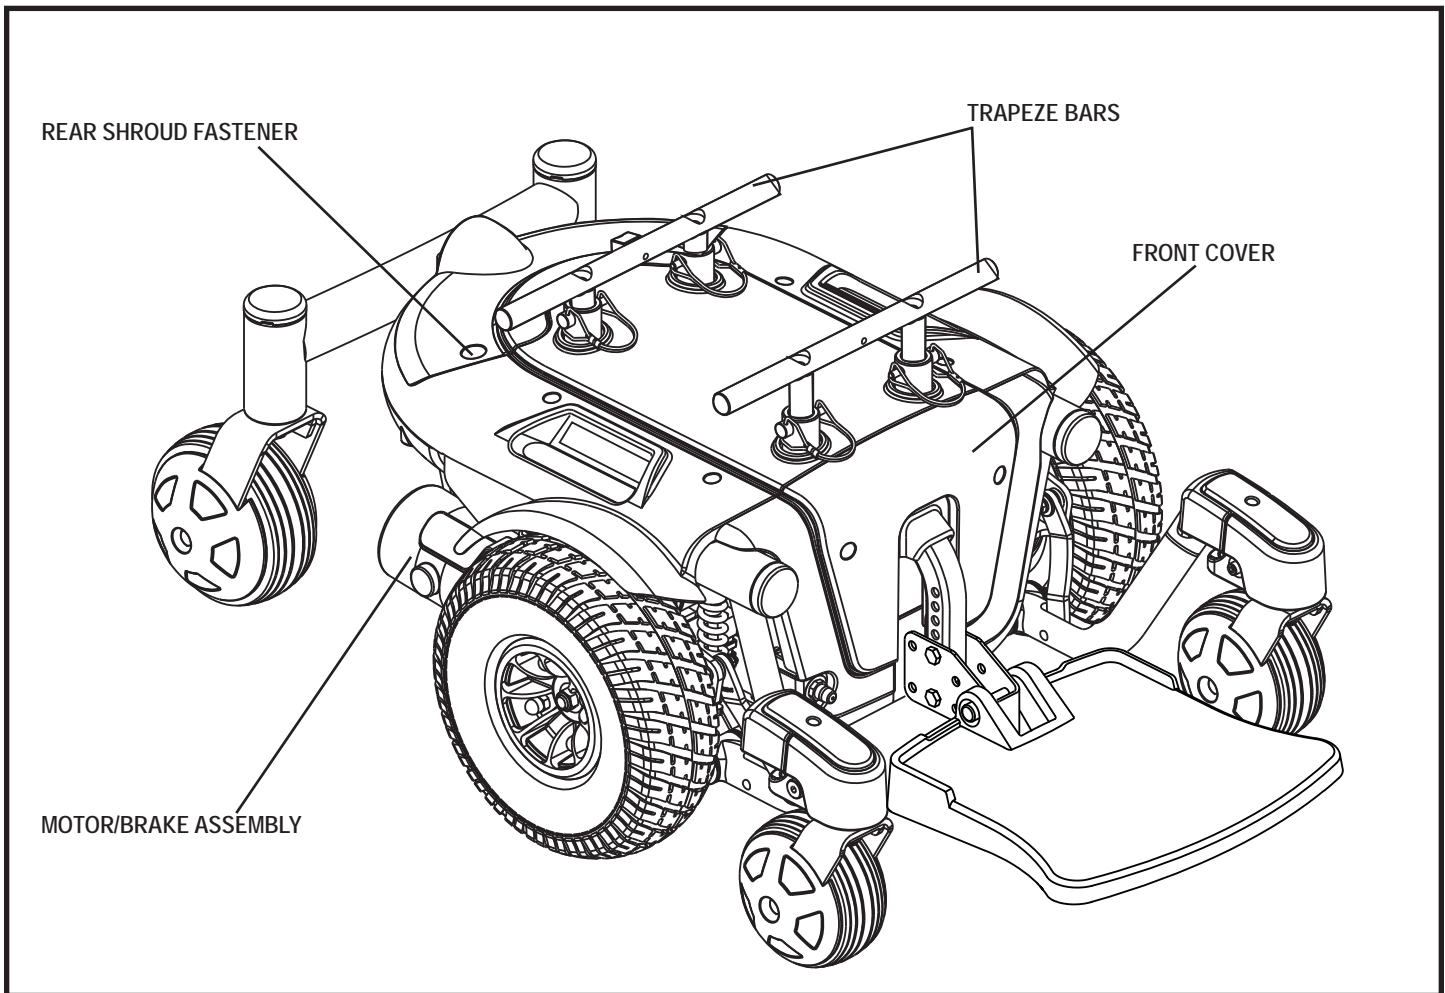

Figure 2. The Quantum 610 Series Power Base
5. Loosen the rear shroud fasteners and remove the rear shroud. **See figure 2.**
7. Reinstall the rear shroud and tighten the rear shroud fasteners. **See figure 2.**
2. Loosen the rear shroud fasteners and remove the rear shroud. **See figure 2.**